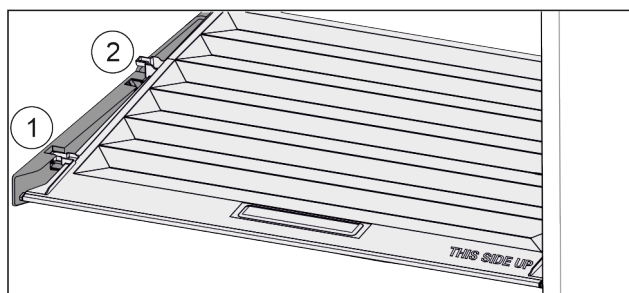

Fig. 134
- ▶ Pull the lid up at the front in the retaining parts to the opening Fig. 134 (1).
- ▶ Lift from the back and pull it up and out Fig. 134 (2).